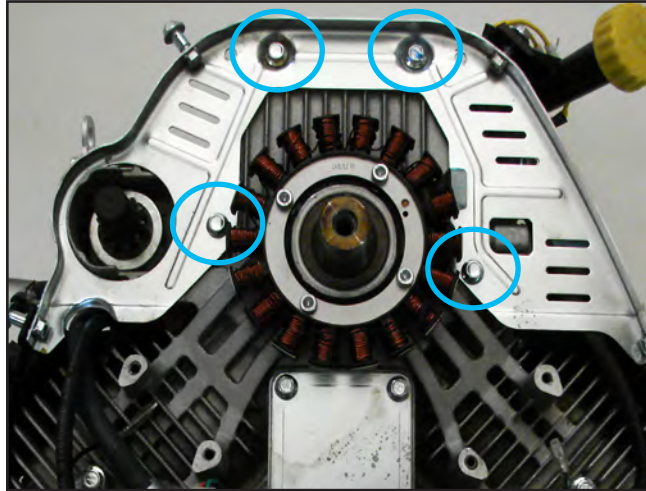

Figure 13
2. Remove the four bolts mounting the baffle to the engine block and remove the baffle (Figure 13).